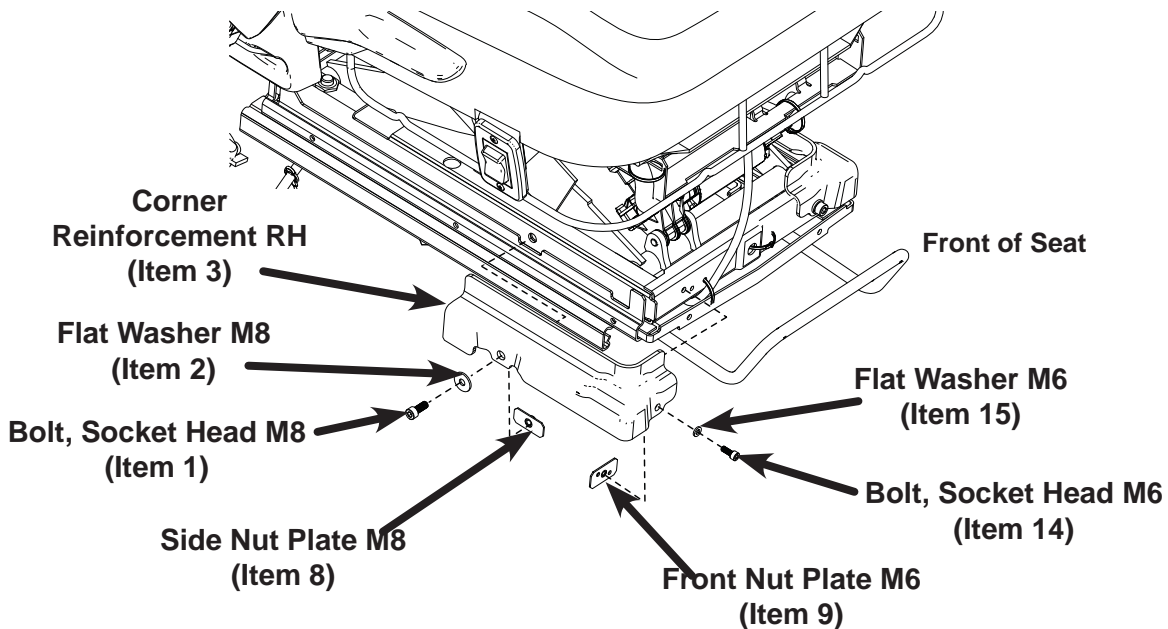

Fig. 18
25. Repeat steps 22-24 for RH corner reinforcement (Item 3) installation on RH side of seat See Fig. 18